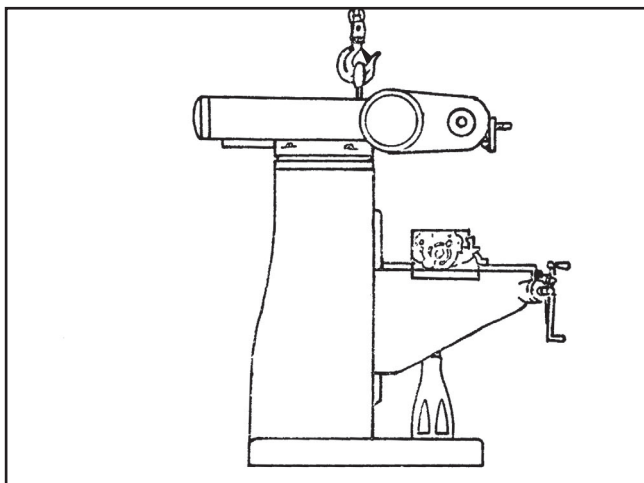

Figure 9. Using the eye bolt to lift the mill.
1. Keep the headstock in the same position it was shipped in, similar to **Figure 9**.